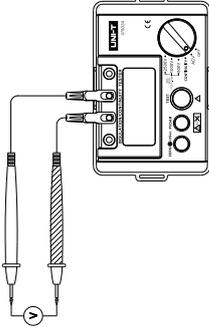

Figure 1
**8. AC Voltage Measurement (See Figure 1)**